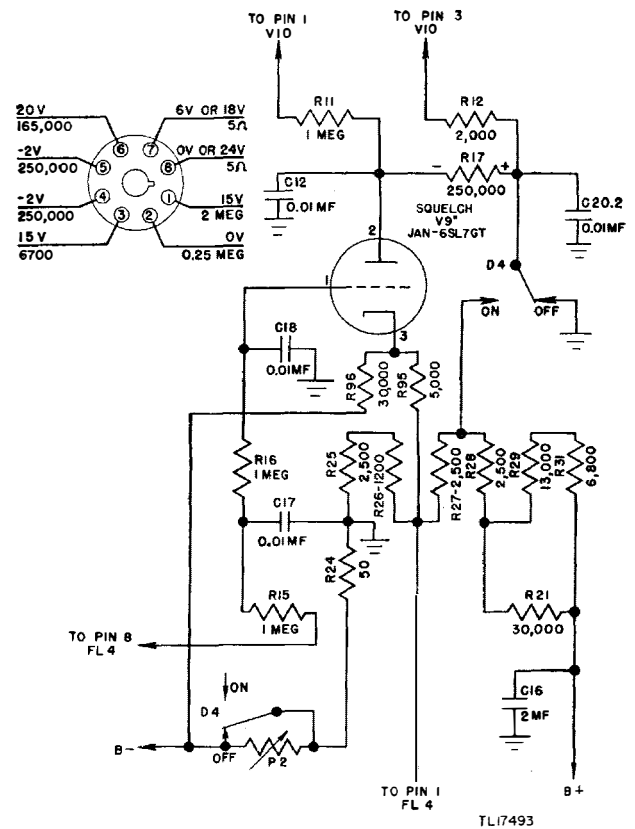

Figure 35. Radio Receiver BC-603-(*) , squelch V9" — schematic diagram.
42. Parts List for Squelch Circuit, V9" (fig. 35)